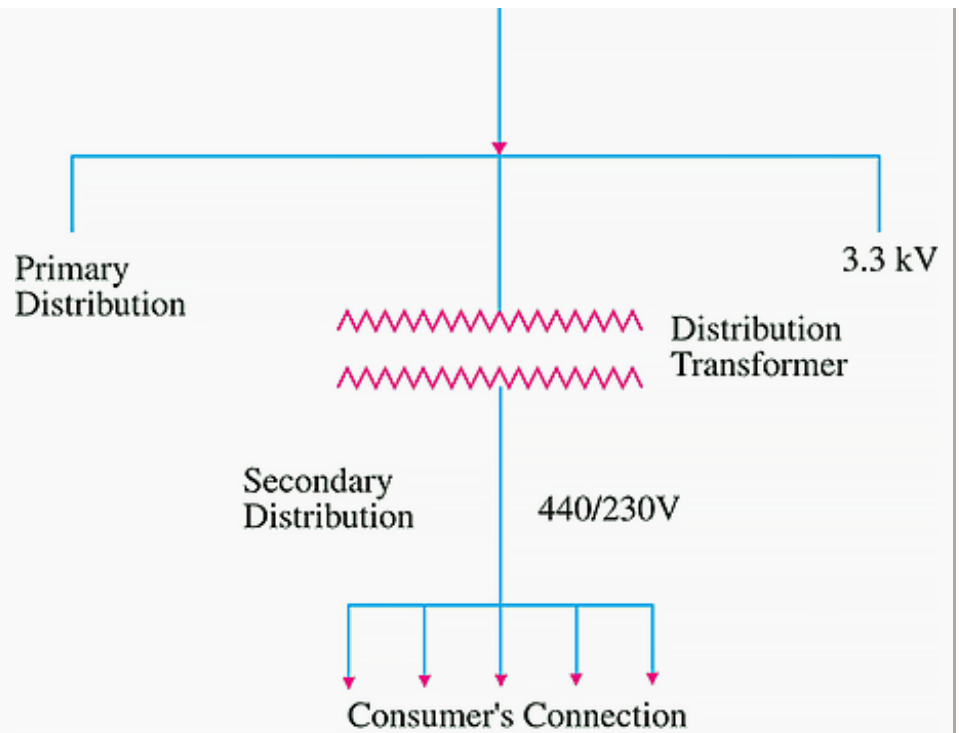

Figure 1 – Single-line diagram of transmission and distribution network. Central station where power is generated by 3-phase alternators.
**Each part can again be sub-divided into two:** primary transmission and secondary transmission and similarly, primary distribution and secondary distribution and then finally the system of supply to individual consumers. A typical layout of a **generating, transmission and distribution network** of a large system would be made up of elements as shown by a single-line diagram of Figure 1 although it has to be realized that one or more of these elements may be missing in any particular system.
In Figure 1 **C.S.** represents the **central station** where power is generated by 3-phase alternators at 6.6kV or 11kV or 13.2kV or even 32 kV. The voltage is then stepped up by suitable **3-phase transformers** for transmission purposes.